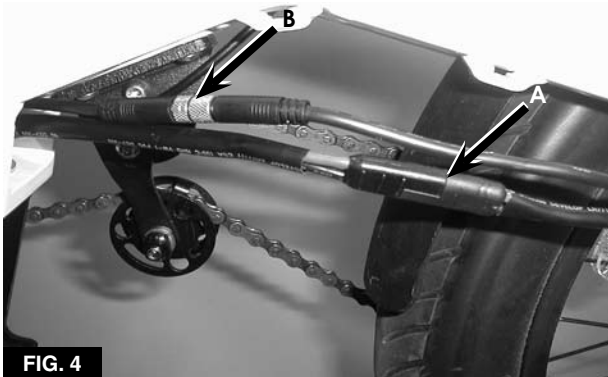

FIG. 4
4. Disconnect the halves of the motor power connector (A, **Figure 4**). Turn out the lock on the controller signal connector (B), and disconnect the connector halves.
f. Slip a piece of heat shrink tubing over the motor power connector (A, **Figure 4**), and then connect the connector halves. Use a heat gun to shrink the tubing.